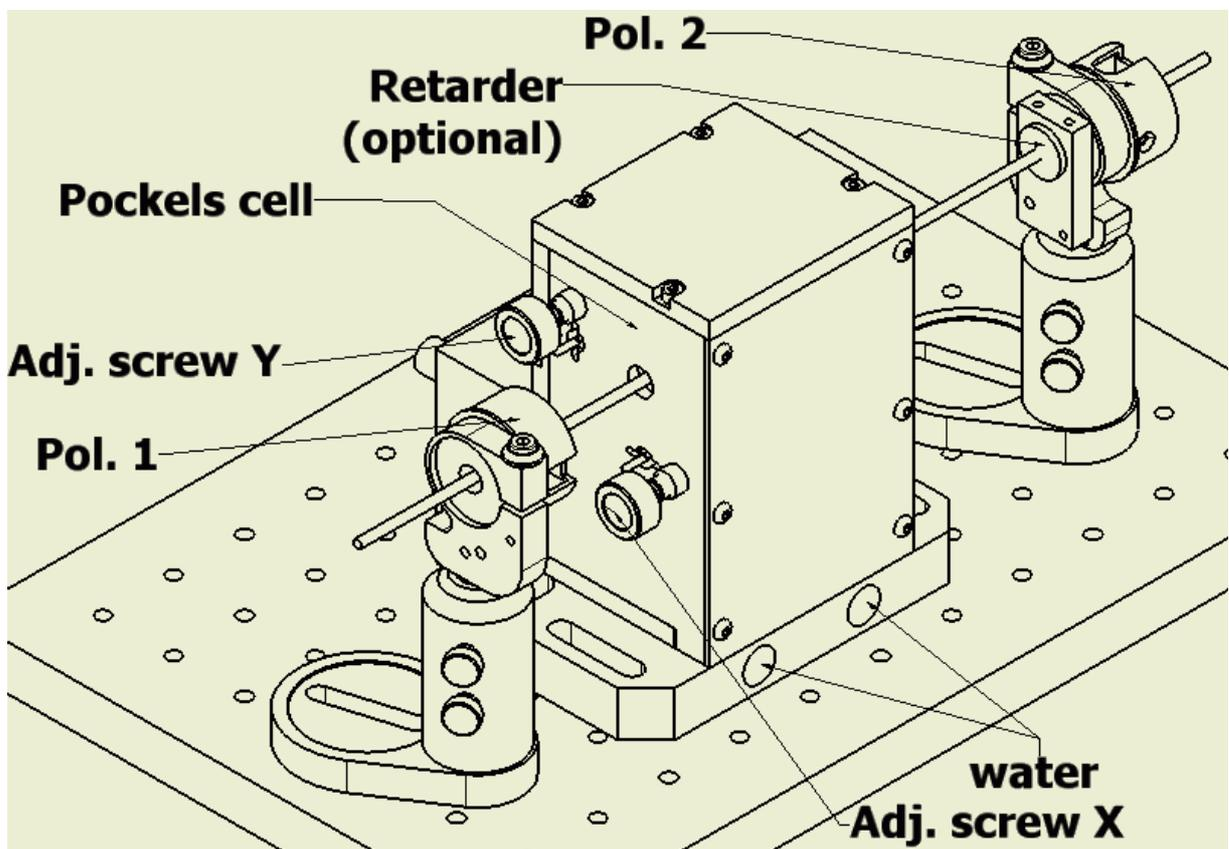

Figure 4. Pulse picker external view.
1. Install the polarizer № 1 (*Figure 4, Pol.1*) on the optical table. The optical beam should pass through the center of the aperture. Align the polarizer around its vertical axis until the reflected beam from the front surface of the polarizer is reflected backwards (in the vertical plane). Loosen the screw and set the polarizer so as to bring the polarization axis to horizontal position.
2. Install the polarizer № 2 (*Figure 4, Pol.2*) on the table, similarly to polarizer №1 (Pol.1). The beam should also go right through the center and reflect backwards. Loosen the screw; bring the polarization axis to vertical position.